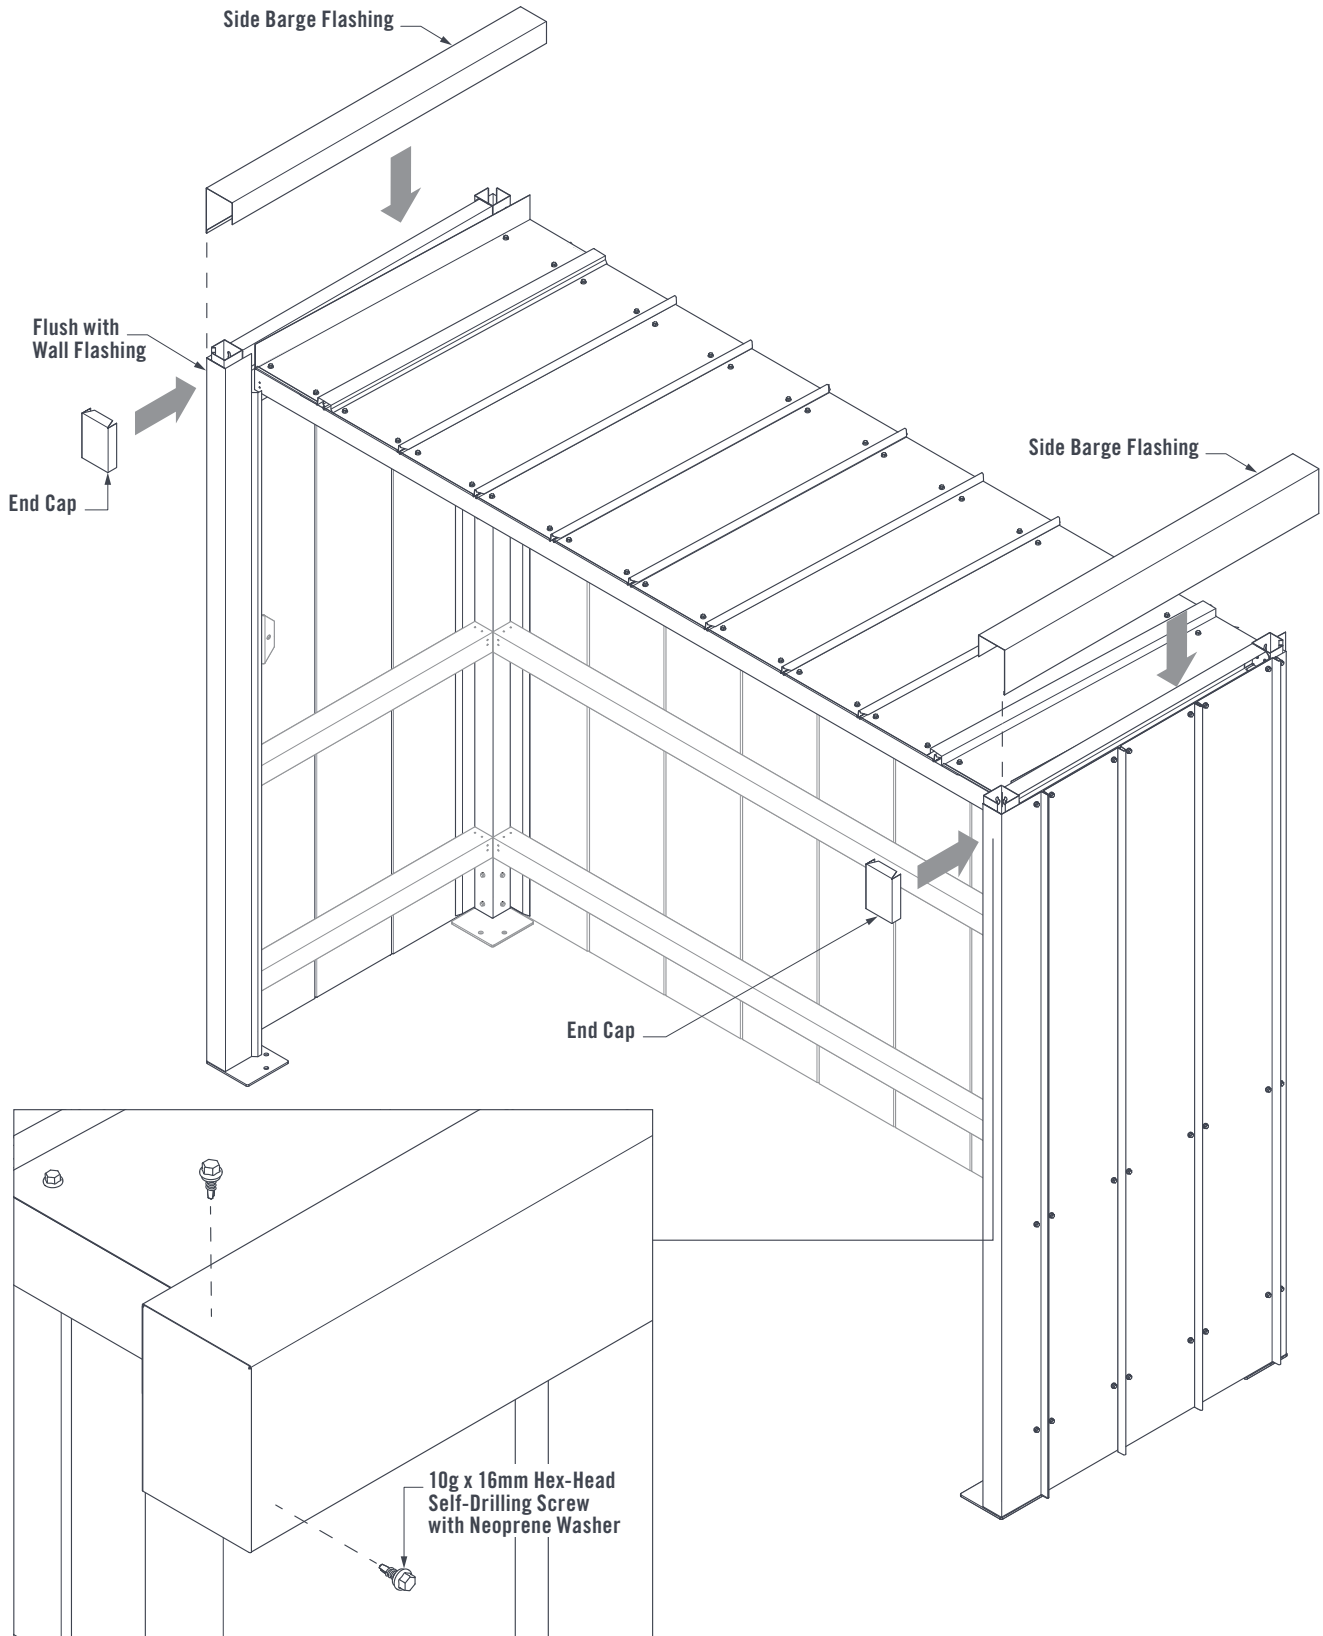
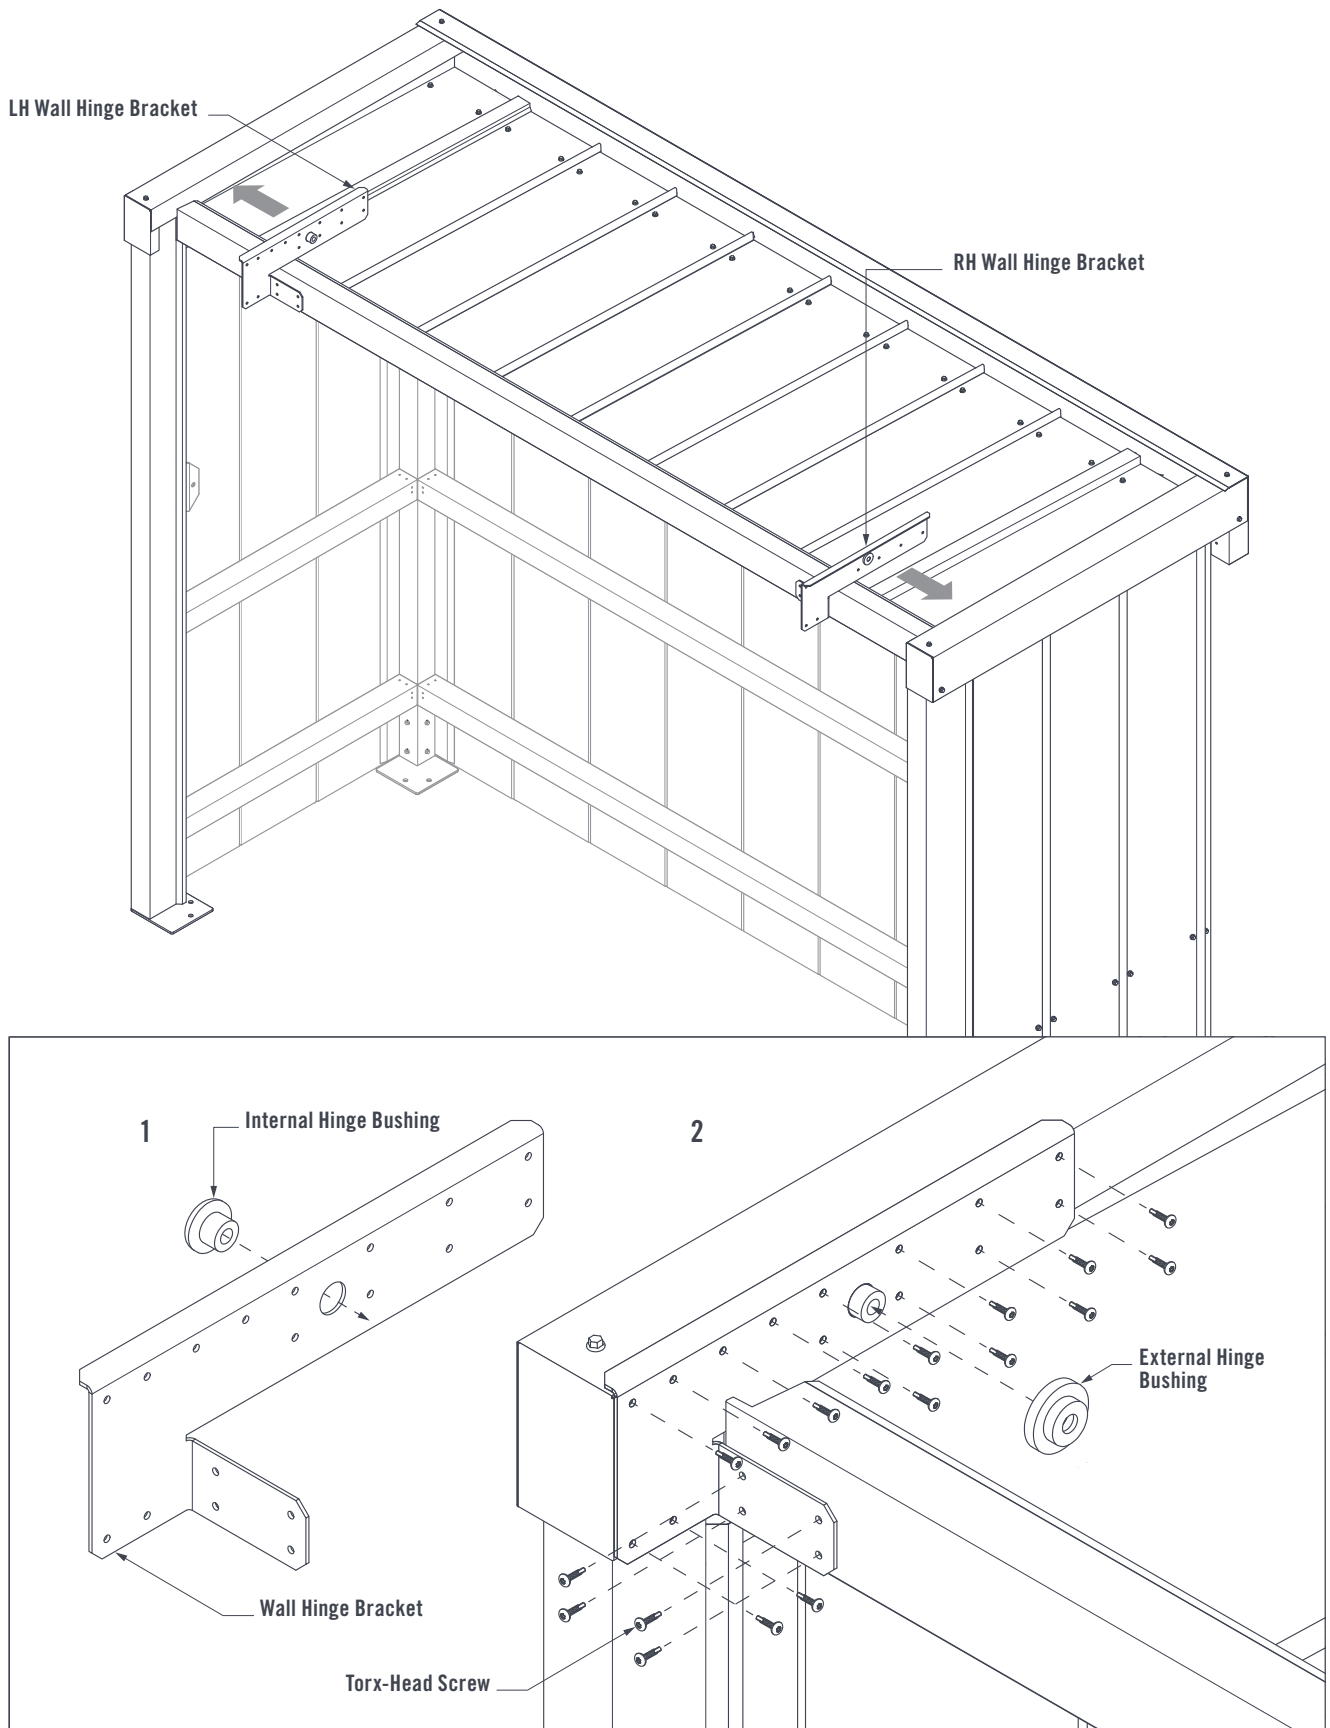

FIGURE 7.0
FIGURE 9.4
Fit the two Side Barge Flashings to the Unit so that they are flush with the Front Wall Flashings. Fit the End Caps into the Side Barge Flashings. Fasten the End Caps to the Side Barge Flashings using two 10Gx16mm Hex-Head Self-Drilling Screws with Neoprene Washers (Figure 7.0). The Side Barge Flashings are fixed to the Unit when the Hinges are installed in Figure 9.4.
1) Fit an Internal Hinge Bushing into the LH and RH Wall Hinge Brackets. 2) Fit the Wall Hinge Brackets to the Unit. Fasten the Wall Hinge Brackets to the Frame Assembly using eighteen Torx-Head Screws through the pilot holes. Fit an External Hinge Bushing onto both Internal Hinge Bushings (Figure 9.4).